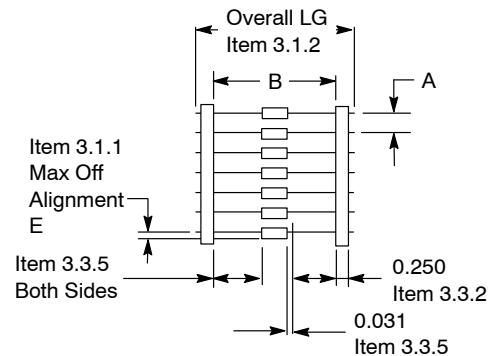

Figure 55. Component Spacing
3.1.1 – Component leads shall not be bent beyond dimension E from their normal position. See Figure 55.
3.1.2 – The "C" dimension shall be governed by the overall length of the reel packaged component. The distance between flanges shall be 0.059 inch to 0.315 inch greater than the overall component length. See Figures 55 and 56.
3.3.2 – Component's leads shall be positioned perpendicularly between pairs of 0.250 inch tape. See Figure 55.